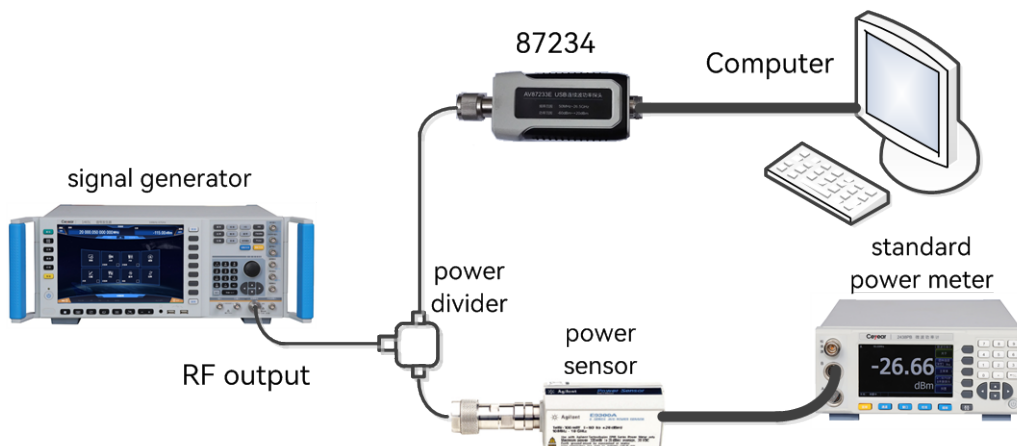

Figure 7.1 Frequency range test
Test block diagram as shown in Figure 7.1.
- 1) The USB Peak/Avg power meter under test is connected to the computer via USB cable, and the standard power meter is mated to a power probe covering the frequency band, warmed up for at least 30 minutes and then zeroed, and connected in accordance with Figure 7.1;
2. In Figure 7.1, if there is no power divider, the USB Peak/Avg power meter under test and the standard power probe can be connected to the output of the signal generator for testing respectively.